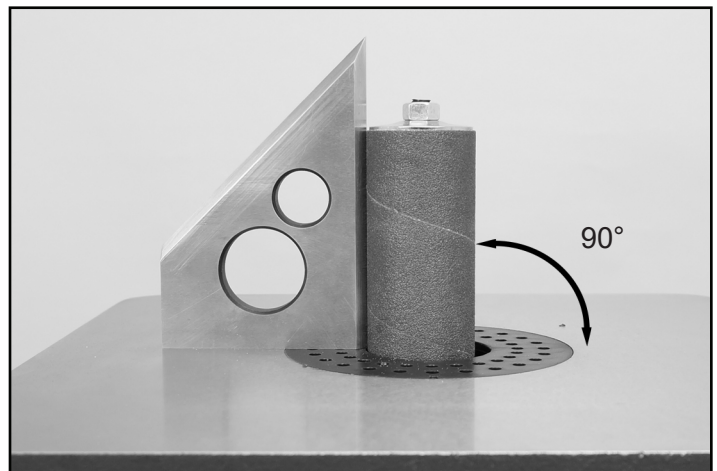

FIG. 6
2. Using a 90° square placed on the table top, move the square to the spindle. It should measure 90°. (Fig. 6). If the table is not square to the spindle, an adjustment can be made to the table setting.